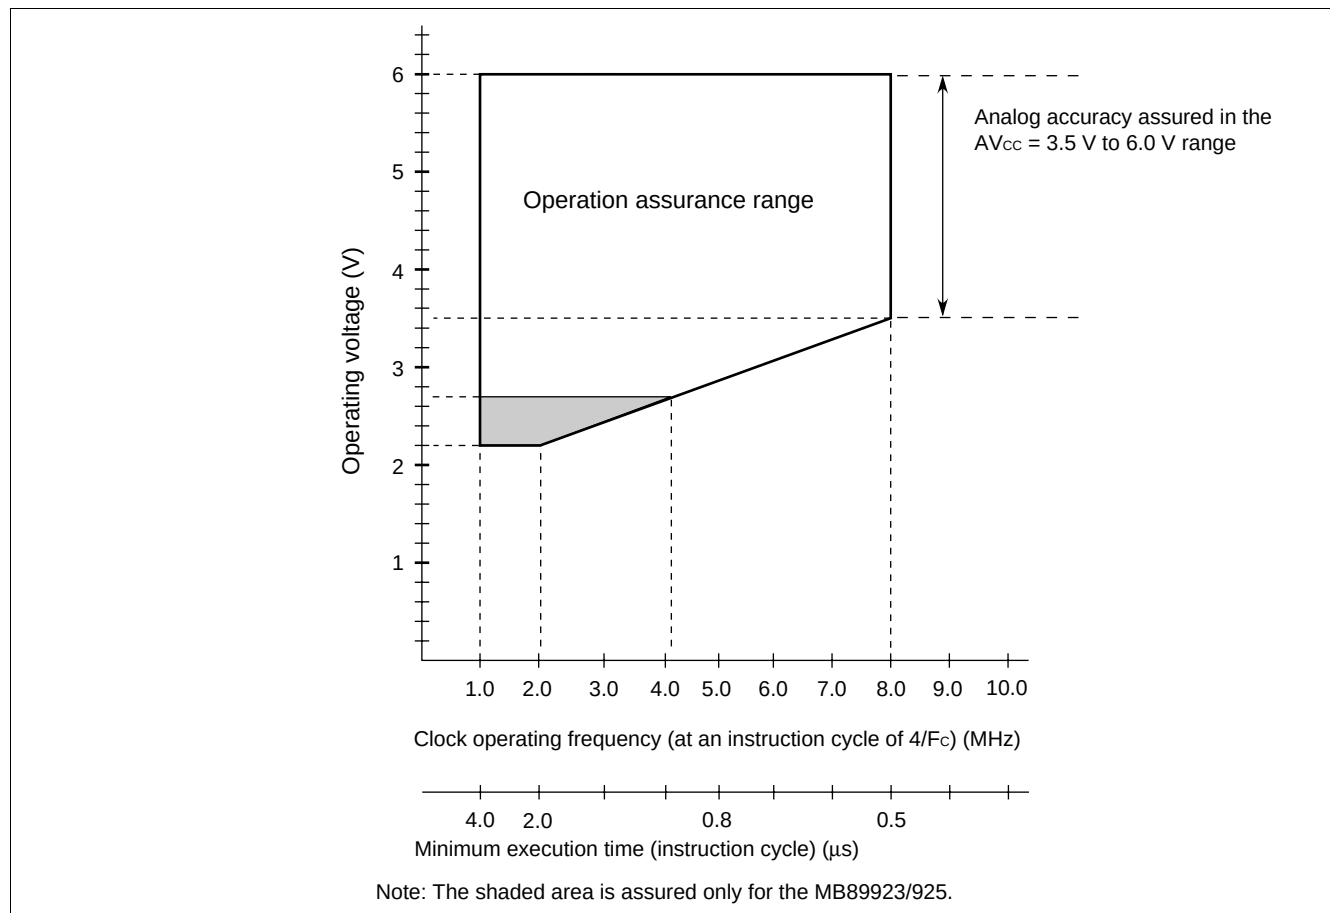

Figure 1 Operating Voltage vs. Clock Operating Frequency
*1: These values vary with the operating frequency, instruction cycle, and analog assurance range. See Figure 1 and "5. A/D Converter Electrical Characteristics."
Figure 1 indicates the operating frequency of the external oscillator at an instruction cycle of $4/F_C$. Since the operating voltage range is dependent on the instruction cycle, see minimum execution time if the operating speed is switched using a gear.